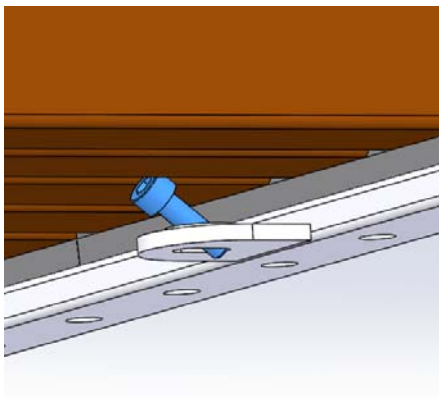

fig. 2
1. Insert M6 cylindrical screws and washers from the underside of the seat as shown in fig. 2.